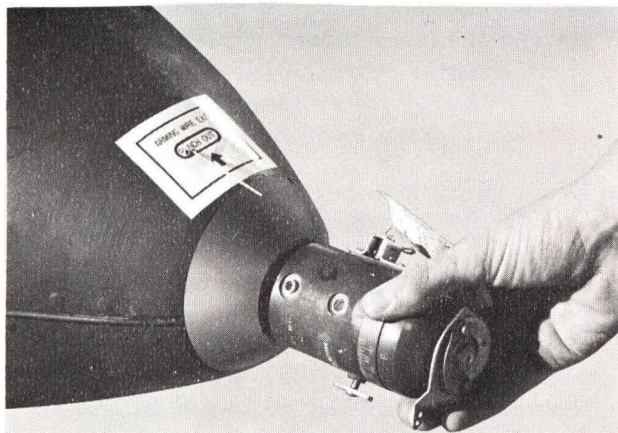

Figure 4-6. Fuze Screwed Into Fuze Well of Dispenser
9. Place fuze in fuze well of nose of dispenser and screw fuze clockwise until handtight, figure 4-6.